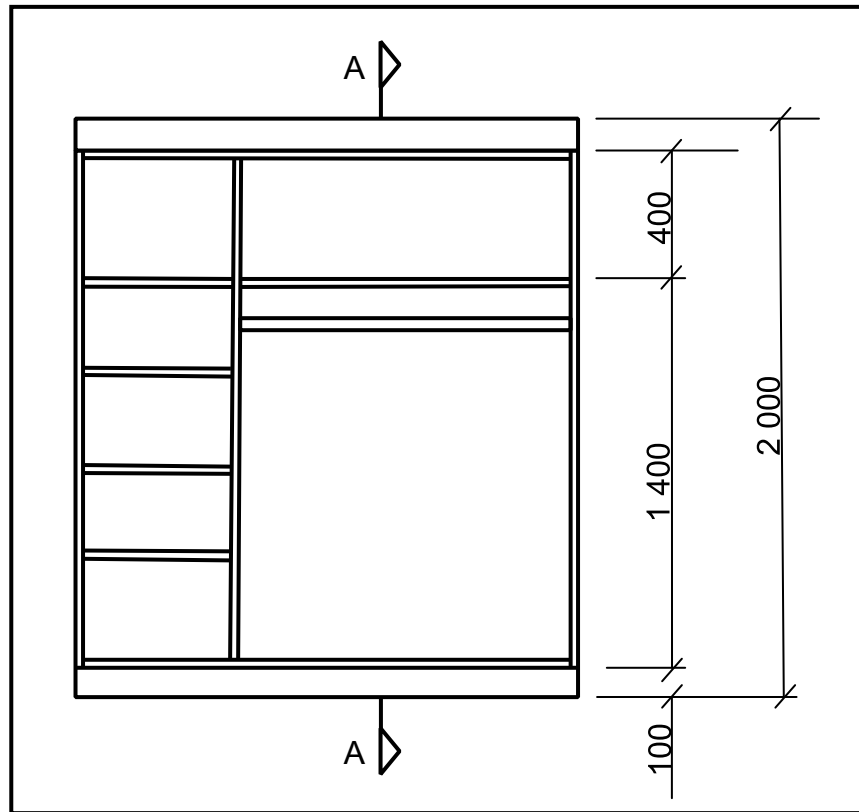

FIGURE 3.4
- 3.4 FIGURE 3.4 below shows the front view of a built-in cupboard without the doors. Use ANSWER SHEET 3.4 and draw a vertical sectional view of the cupboard to scale 1 : 10.